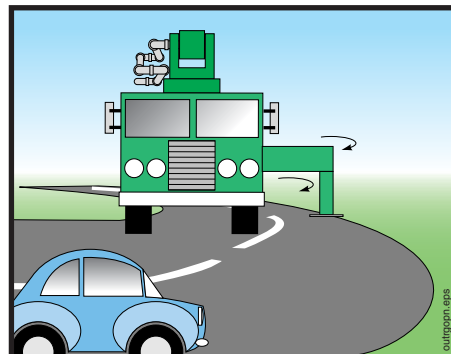

Figure 5
- 3.11**  **WARNING** Be sure that outriggers are pinned and locked before traveling. If the locking device is damaged or worn, it should be repaired immediately and the unit **must not be driven until the outriggers can be positively locked** against accidental opening (see Figure 5).